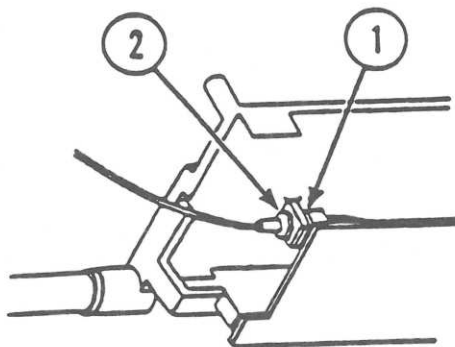

FIGURE 23
19. Using an adjustable wrench, hold the nut on the right side of the carrier wire in place. (See Figure 23, #1.) Using a needlenose pliers, remove the wire nut on the left side of the carrier wire. (See Figure 23, #2.)